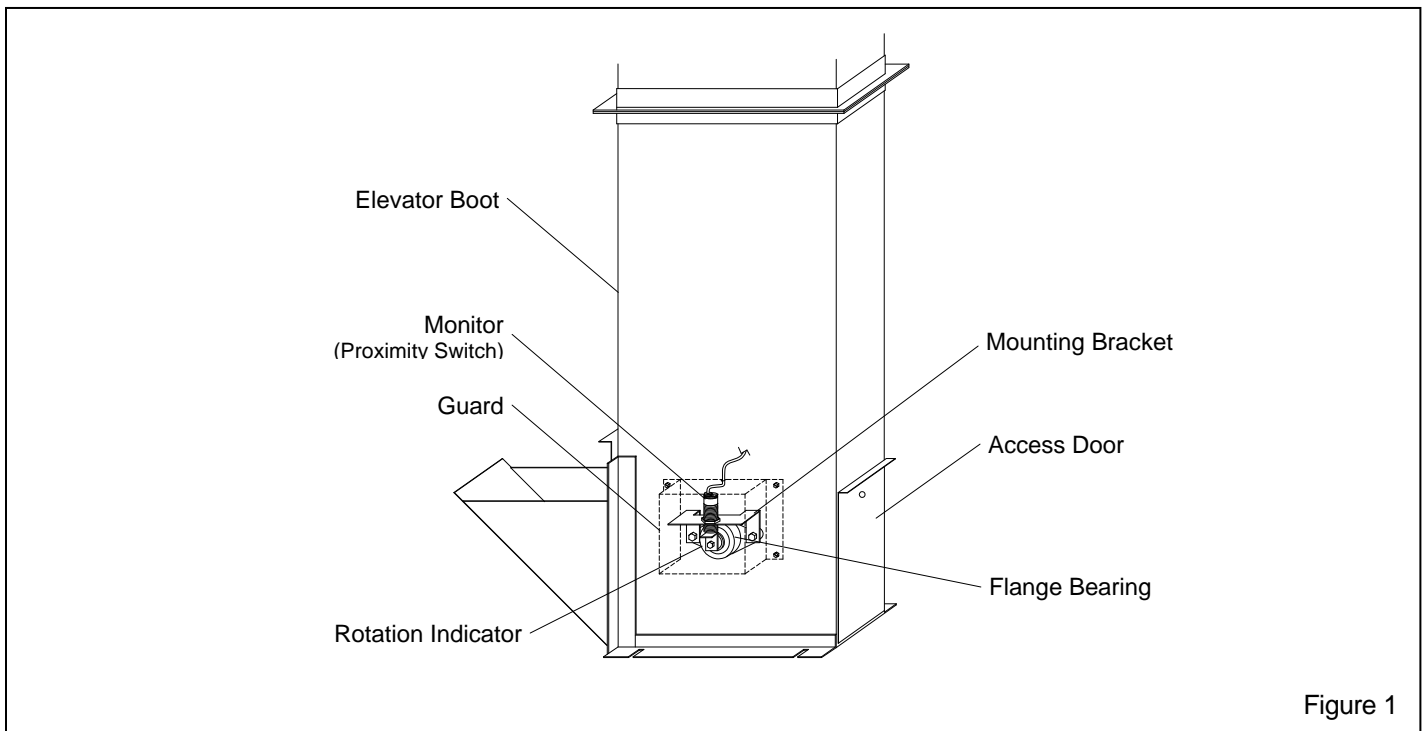

Figure 1
1.3 **General Description:** The illustration in Figure 1 shows the monitor assembly installed on a front feed bucket elevator. The monitor detects the motion of the elevator bottom (idler) pulley. It is designed to shut off the bucket elevator motor in the event the speed of the bottom pulley drops below the monitor's set RPM. This will prevent burn-through, and component damage in the event of an obstruction, jam, or belt slippage, in the bucket elevator.
**2.12** Place the guard over the monitor as shown in Figure 1. If the elevator boot does not have mounting holes, hold the guard in position and match drill the holes.